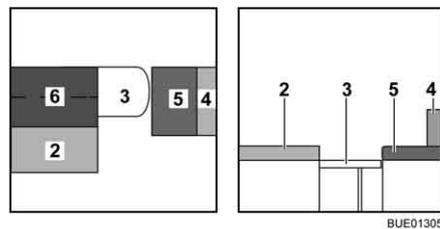

Fig. 132 During conversion
- Unfold the additional cushion (Fig. 132,6) and lay it on the table.